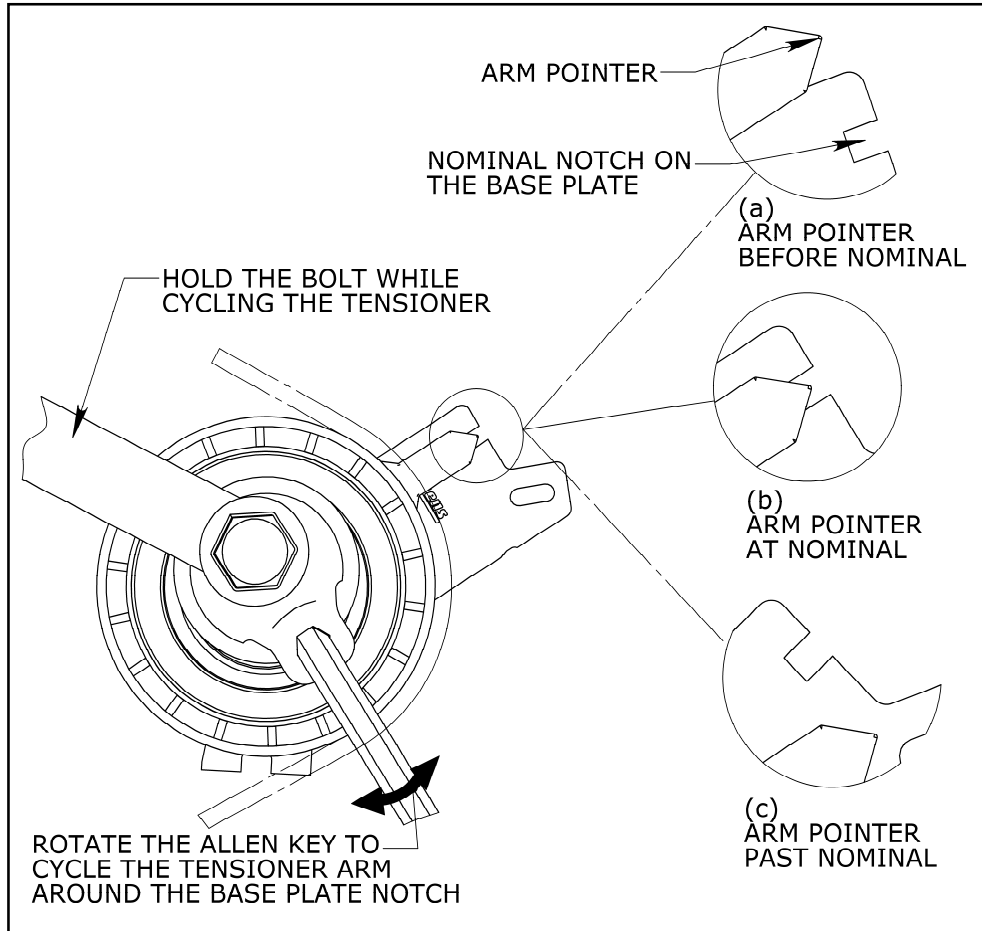

Figure 7: Tensioner cycling before readjustment to Nominal position
15. Prevent the mounting bolt from rotating and cycle the pivot shaft with the installation tool so that the arm pointer cycles around the base plate notch a few times (Fig. 7).
16. Rotate the pivot shaft **COUNTERCLOCKWISE** only until the arm pointer moves clockwise to align with the notch on the base plate. Re-tighten the mounting bolt to **21±2 Nm** torque while preventing the installation shaft from turning by holding it with the 6mm Allen Key (Fig. 7).